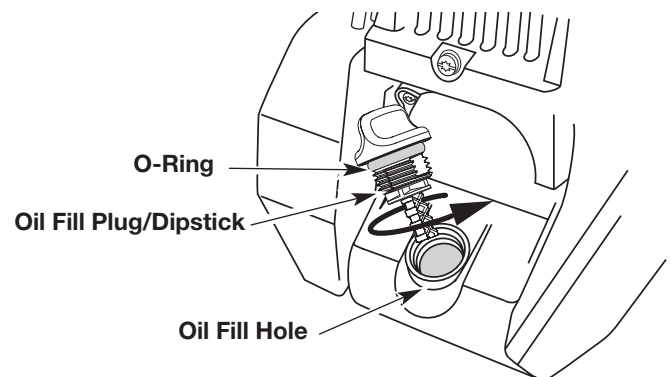

Fig. 41
6. If the level is low, add a small amount of oil to the oil fill hole and recheck (Fig. 41). Repeat this procedure until the oil level reaches the top of the dipstick.
**NOTE:** Make sure the O-ring is in place on the oil fill plug/dipstick when checking and changing the oil (Fig. 41).